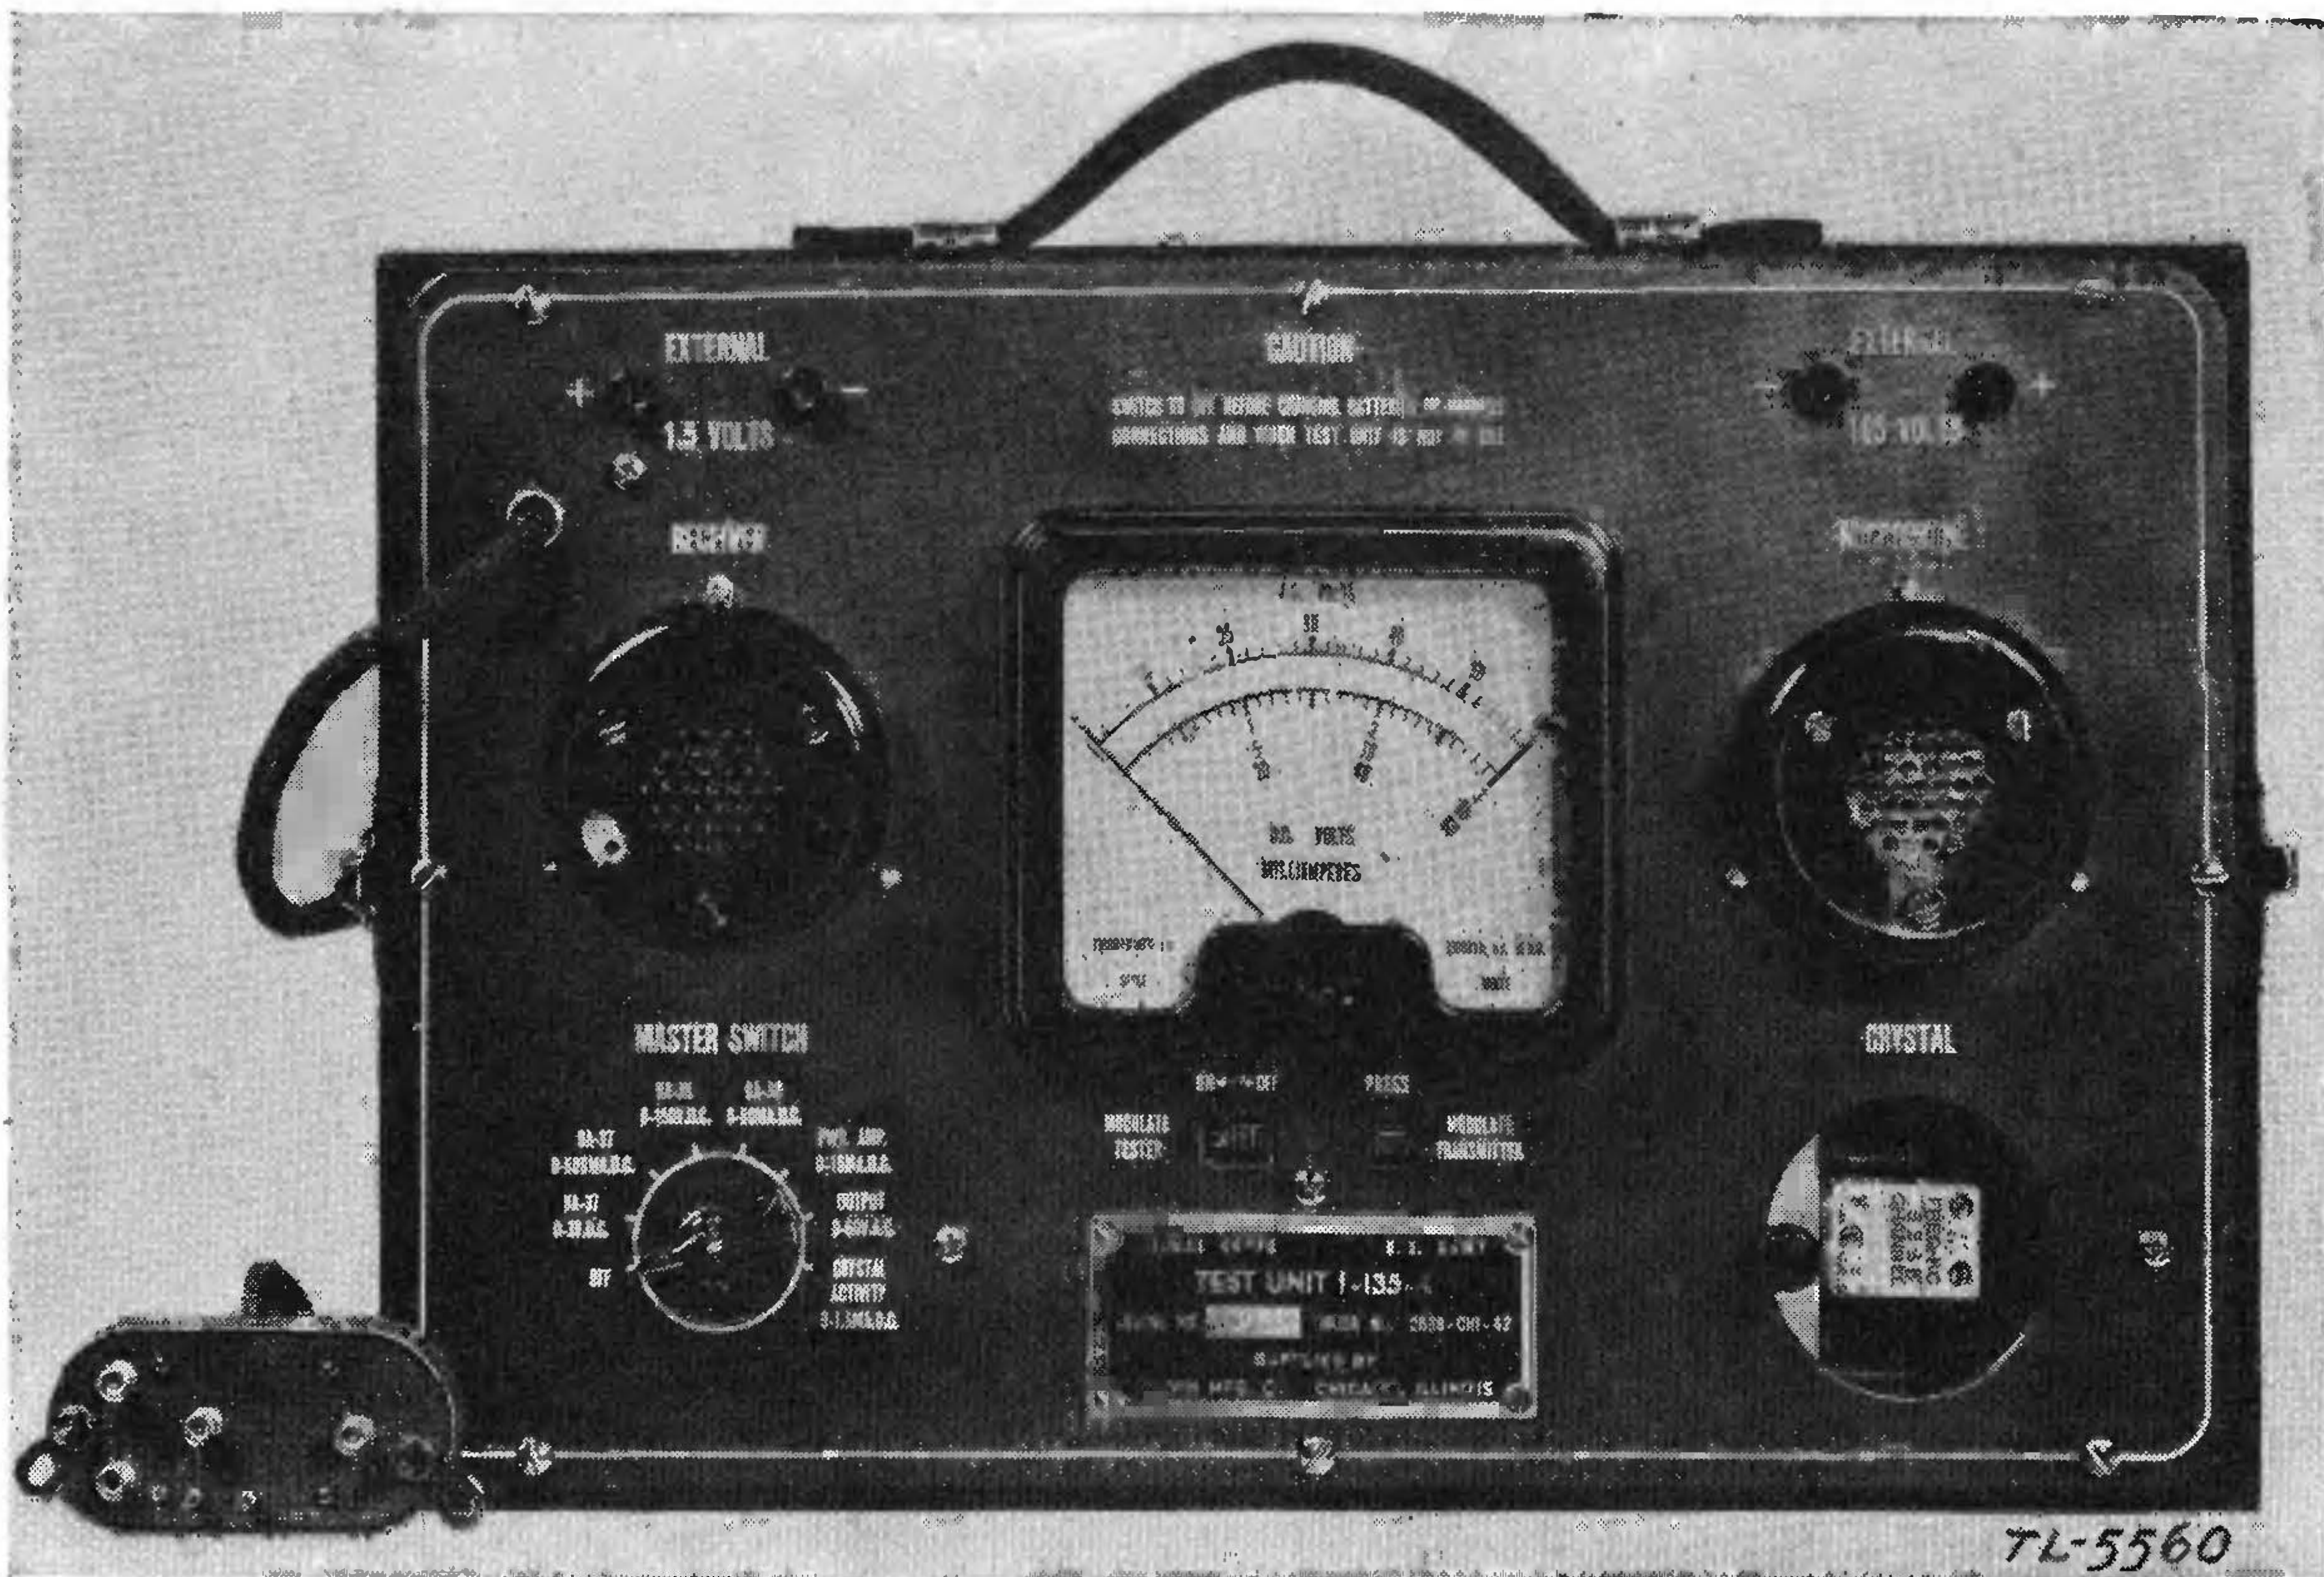

FIGURE 6.—Test unit I-135-(\*).
53. Test unit I-135-(\*).—This unit is a multirange voltmeter and milliammeter, a crystal tester, and an r-f and a-f signal source (fig. 6). Test unit I-135-(\* ) is used for the measurement of battery voltage and current, r-f amplifier plate current, audio output voltage, and crystal activity. It is used as a modulated r-f signal source for the alinement of the receiver and as an a-f signal source for determining the modulation capability of the transmitter. It combines in one case all the meters and additional apparatus required for test equipment IE-15-A.
d. Make certain that the MASTER SWITCH of test unit I-135-(\*) is in the OFF position. Place the transmitter crystal holder of the desired frequency in the crystal socket in the front panel compartment of test unit I-135-(\*). (See fig. 6.) Be sure the crystal is of the same frequency as the coils in the radio set and that its frequency is 455 kc less than the receiver crystal. Connect external 1.5-volt and 90-volt heavy duty batteries (of the type described in paragraph 53d) to the battery terminals marked EXTERNAL 1.5 VOLTS and EXTERNAL 105 VOLTS on the front of I-135-(\*).